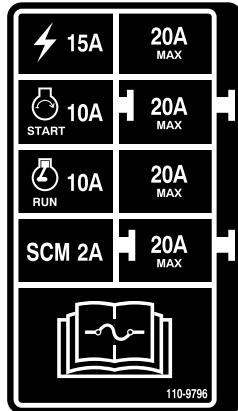

Figure 40
**Important:** If you need to replace a fuse, always use the same type and amperage-rated fuse as the one you are replacing, otherwise you could damage the electrical system. Refer to the decal next to the fuses for a diagram of each fuse and its amperage (Figure 40).